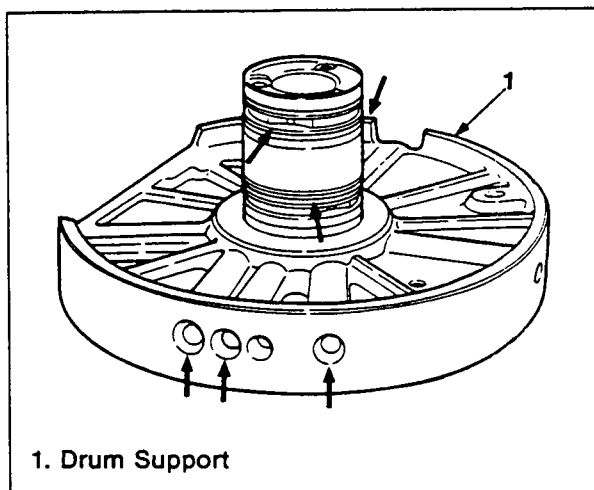

Figure 178. Plain Seal Installation
Plain Seal and Seal Ring (Figures 178 and 179)
1. Apply special grease (included in the repair kit) to the four new plain seals, and install them to the drum support (figure 178).